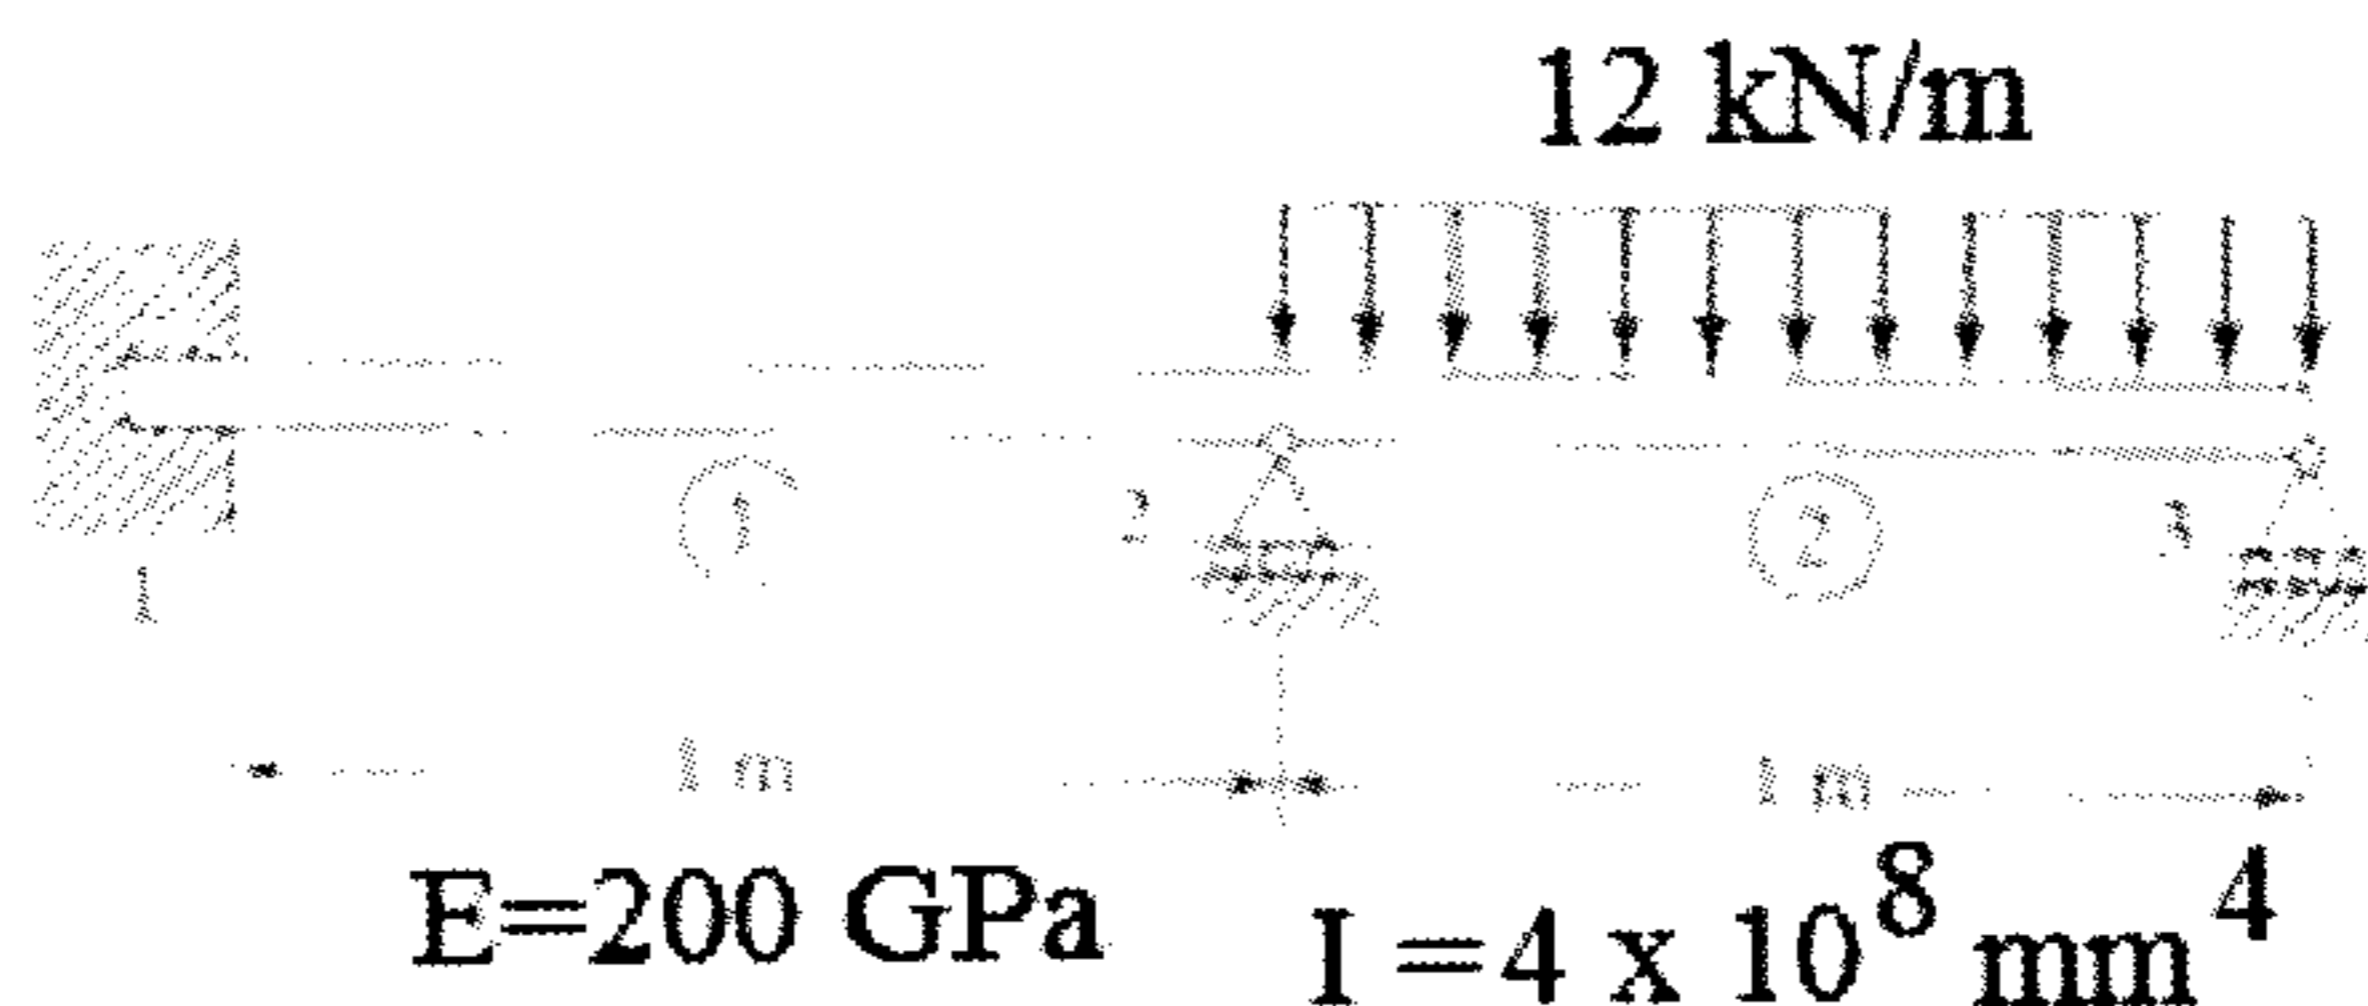

Figure-3
5. For the beam and loading shown in Figure-3, determine